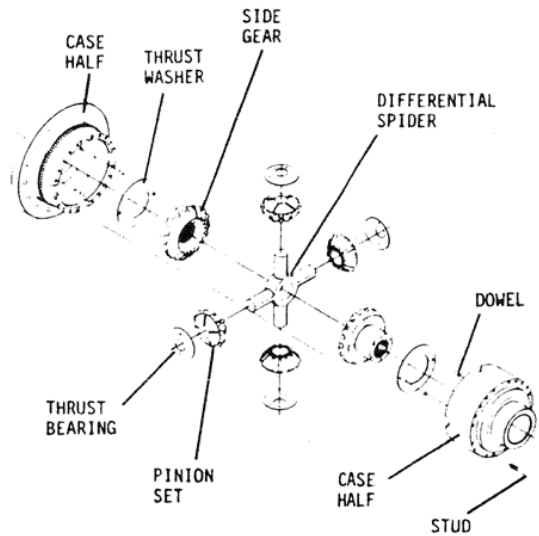

FIGURE 4
A. Preparation for Assembly - Figure 4.